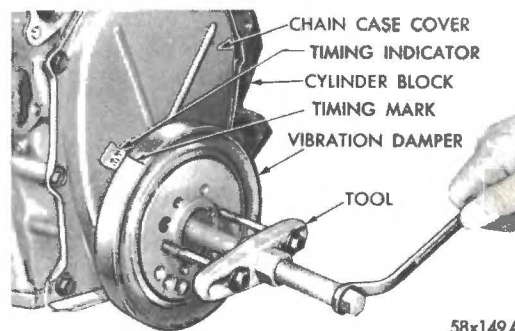

Fig. 11 Removing Vibration Damper Assembly Using Tool C-3688
(1) Drain the cooling system and remove the radiator and water pump assembly.
(2) Remove the bolt holding the vibration damper on the crankshaft.
(3) Remove two of the pulley bolts, install Tool C-3688 and pull the damper assembly off the end of crankshaft, as shown in Figure 11.